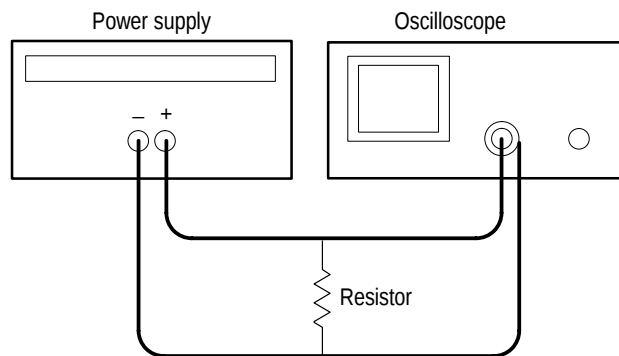

Figure 4: Constant Voltage Ripple and Noise Test Setup
2. Ensure that the power supply output is disabled. Connect the oscilloscope and 27 Ω 100 W resistor to the front panel OUTPUT 1 terminals. See Figure 4 for details.
10. Ensure that the power supply output is disabled. Remove the leads from the front panel OUTPUT 1 terminals and connect them to the front panel OUTPUT 2 terminals. Maintain the equipment configuration and polarities shown in Figure 4.
2. Ensure that the power supply output is disabled. Connect the oscilloscope and $2.2\ \Omega$ 50 W resistor to the front panel OUTPUT 3 terminals. See Figure 4 for details.